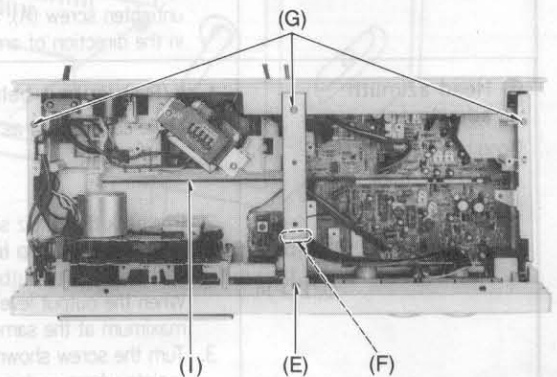
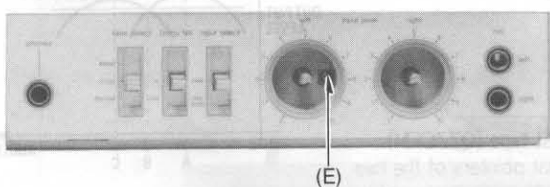
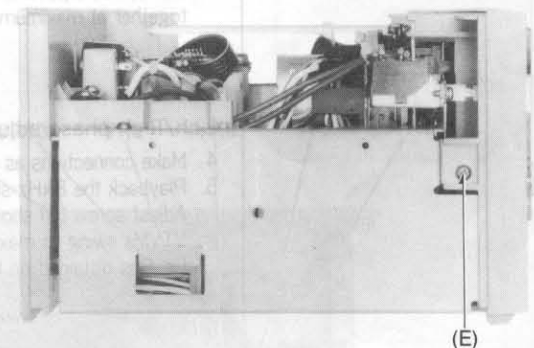
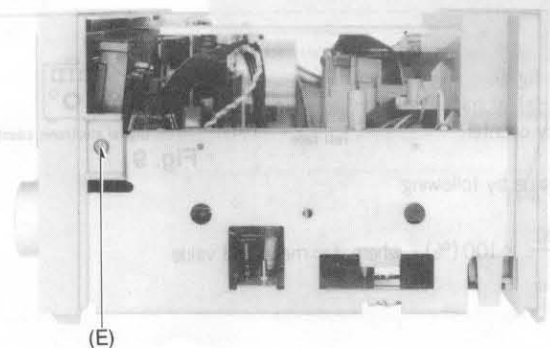

Fig. 4
Fig. 5
Fig. 6
Fig. 7
B Head azimuth adjustment Condition: • Playback mode Equipment: • VTVM • Oscilloscope • Test tape (azimuth) ... QZZCFM	L-ch/R-ch output balance adjustment 1. Make connections as shown in fig. 4. 2. Playback the 8kHz signal from the test tape (QZZCFM). Adjust screw (B) in fig. 5 for maximum output L-ch and R-ch levels. When the output levels of L-ch and R-ch are not at maximum at the same time, readjust as follows. 3. Turn the screw shown in fig. 5 to find angles A and C (points where peak output levels for left and right channels are obtained). Then, locate the angle B between angles A and C, i.e., a point where L-ch and R-ch output levels come together at maximum. (Refer to figs. 5 and 6.) L-ch/R-ch phase adjustment 4. Make connections as shown in fig. 7. 5. Playback the 8kHz signal from the test tape (QZZCFM). Adjust screw (B) shown in fig. 5 so that pointers of the two VTVMs swing to maximum and a waveform as illustrated in fig. 8 is obtained on the oscilloscope.  Fig. 4  Fig. 5  Fig. 6  Fig. 7  Fig. 8
D Playback frequency response Condition: • Playback mode • Tape selector ... Normal position Equipment: • VTVM • Oscilloscope • Test tape ... QZZCFM	1. Test equipment connection is shown in fig. 4. 2. Place UNIT into playback mode. 3. Playback the frequency response test tape (QZZCFM). 4. Measure output level at 315Hz, 12.5kHz, 8kHz, 4kHz, 1kHz, 250Hz, 125Hz and 63Hz, and compare each output level with the standard frequency 315Hz, at LINE OUT. 5. Make measurement for both channels. 6. Make sure that the measured value is within the range specified in the frequency response chart (shown in fig. 10). Playback frequency response chart  Fig. 10
E Playback gain Condition: • Playback mode • Tape selector ... Normal position Equipment: • VTVM • Oscilloscope • Test tape ... QZZCFM	1. Test equipment connection is shown in fig. 4. 2. Playback standard recording level portion on test tape (QZZCFM 315Hz), and using VTVM measure the output level at LINE OUT. 3. Make measurement for both channels. Standard value: 0.4V ± 1dB [around 0.42V: at test points TP5 (L-CH) and TP6 (R-CH)] Adjustment 1. If measured value is not within standard, adjust VR1 (L-CH), VR2 (R-CH) (See fig. 2 on page 3). 2. After adjustment, check "Playback frequency response" again.